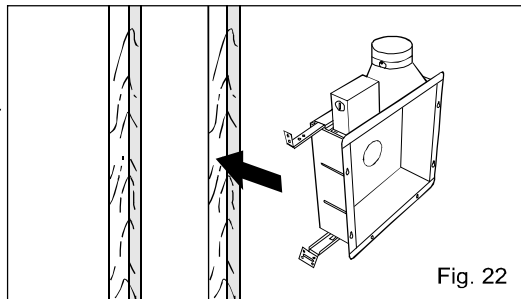

Fig. 22
- Secure the suspension bracket to studs by using long screws (ST4.2X20). (Fig. 22, Fig. 23)